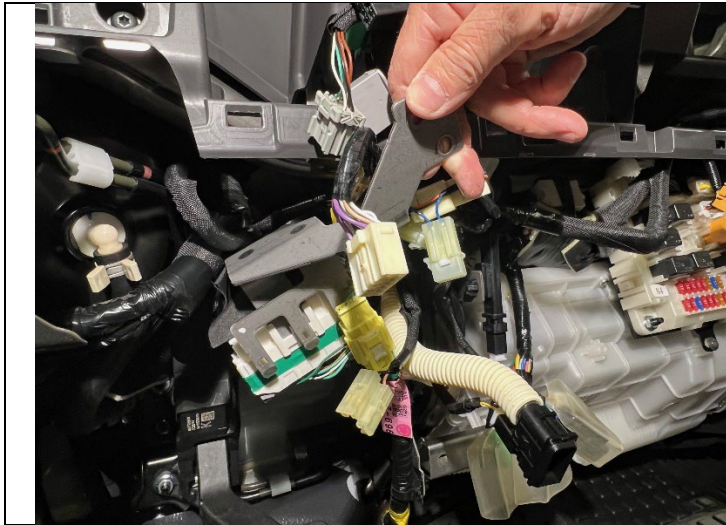

Figure 23
25. Move the H98 and H99 connector bracket to the left and downward for easier access to the connectors. (See Figure 23).